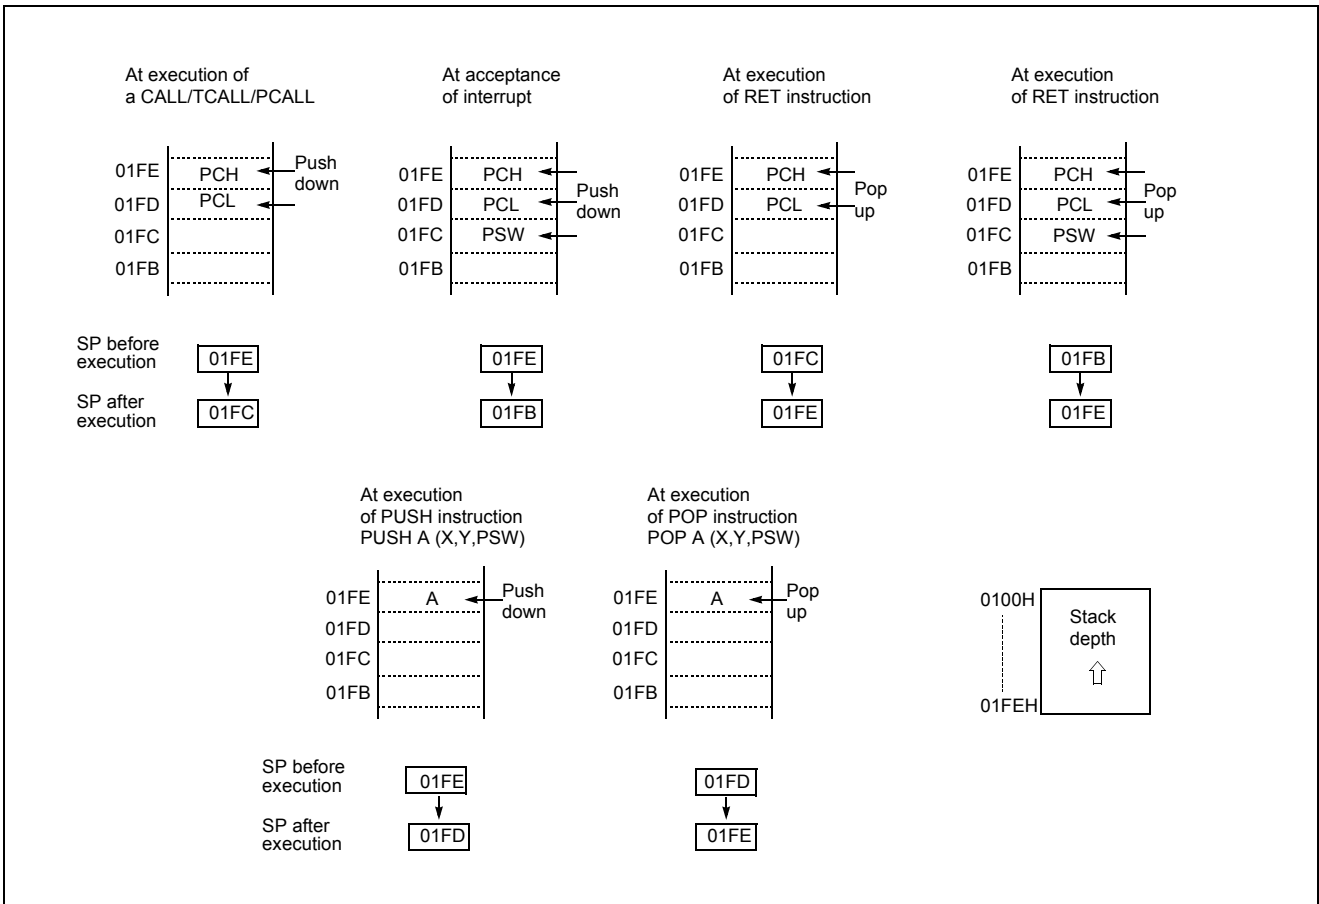

Figure 8-4 Stack Operation
The save/restore locations in the stack are determined by the stack pointed (SP). The SP is automatically decreased after the saving, and increased before the restoring. This means the value of the SP indicates the stack location number for the next save. Refer to Figure 8-4 on page 24.